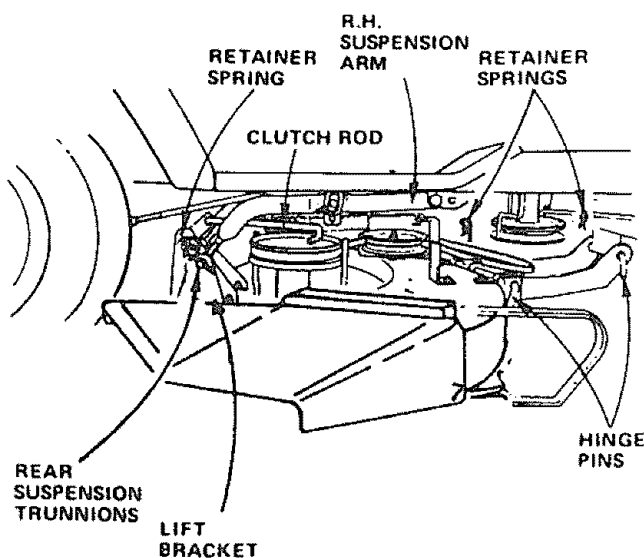
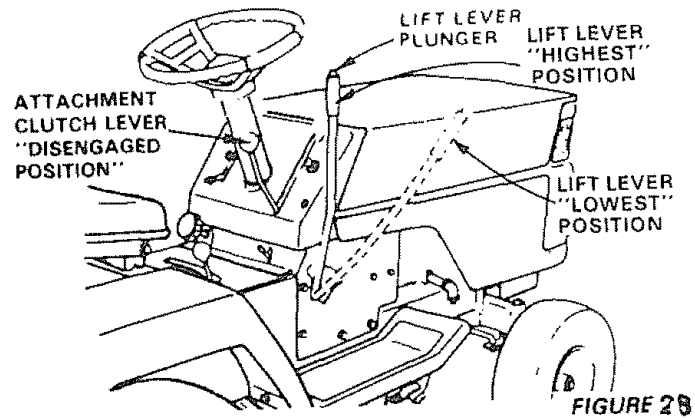
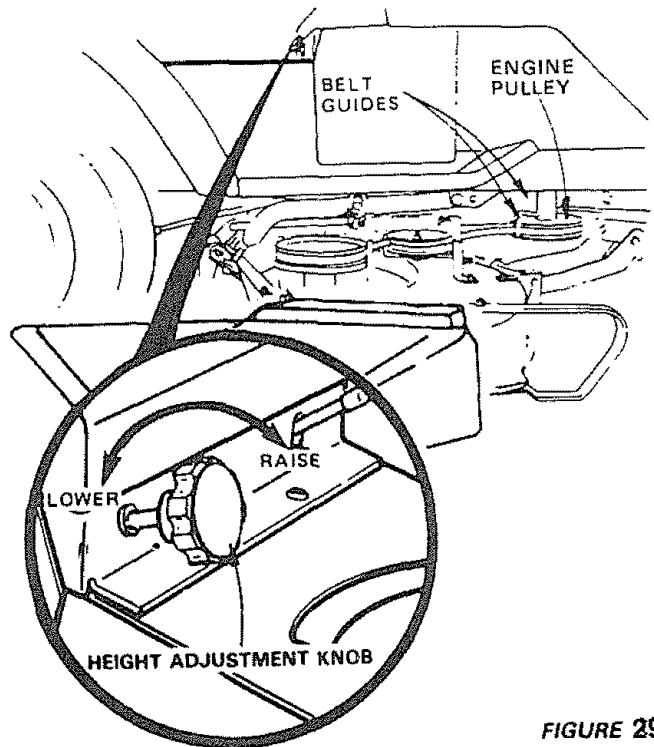

FIGURE 27
FIGURE 28
FIGURE 29
- Remove retainer spring from clutch rod; pull clutch rod out of clutch bracket. (Fig. 27)
- Pull retainer springs out of rear suspension trunnions. Remove rear suspension trunnions from lift brackets (Fig. 27).
- Pull retainer spring out of rear hinge pin. Remove rear hinge pin. (Fig. 27)
- Pull retainer spring out of front hinge pin. Remove front hinge pin (Fig. 27).
**NOTE: IF AN ATTACHMENT OTHER THAN THE MOWER DECK IS TO BE MOUNTED ON THE TRACTOR, THE L.H. AND R.H. SUSPENSION ARMS ( FIG. 27) SHOULD BE REMOVED FROM TRACTOR.**
Your Mower installs without the use of tools. Raise Attachment Lift Lever (Fig. 28) to its highest position. Turn height adjustment knob to lowest position (Fig. 29).
- Move Attachment lift lever (Fig. 28) forward to lower suspension arms. Slide trunnions through lift bracket holes and secure with retainer springs (Fig. 27).
- Roll belt over engine pulley. Make sure belt is inside belt guides (Fig. 29). See belt drive schematic decal on mower housing.
- Use Attachment lift lever (Fig. 28) to raise mower.
- Turn height adjustment knob clockwise (↻) to the middle of its travel, or to desired cut height (Fig. 29).
- Place attachment clutch lever in "Disengaged" position (Fig. 29).
- Turn height adjustment knob to lowest position. Move Attachment lift lever (Fig. 28) forward to lower mower to its lowest position.
- Roll belt off engine pulley (Fig. 29).